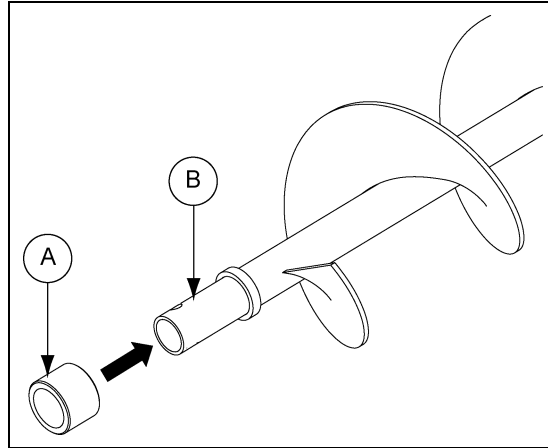

Figure 4I
Step 9: Fit bronze bushing. (See Figure 4I.)